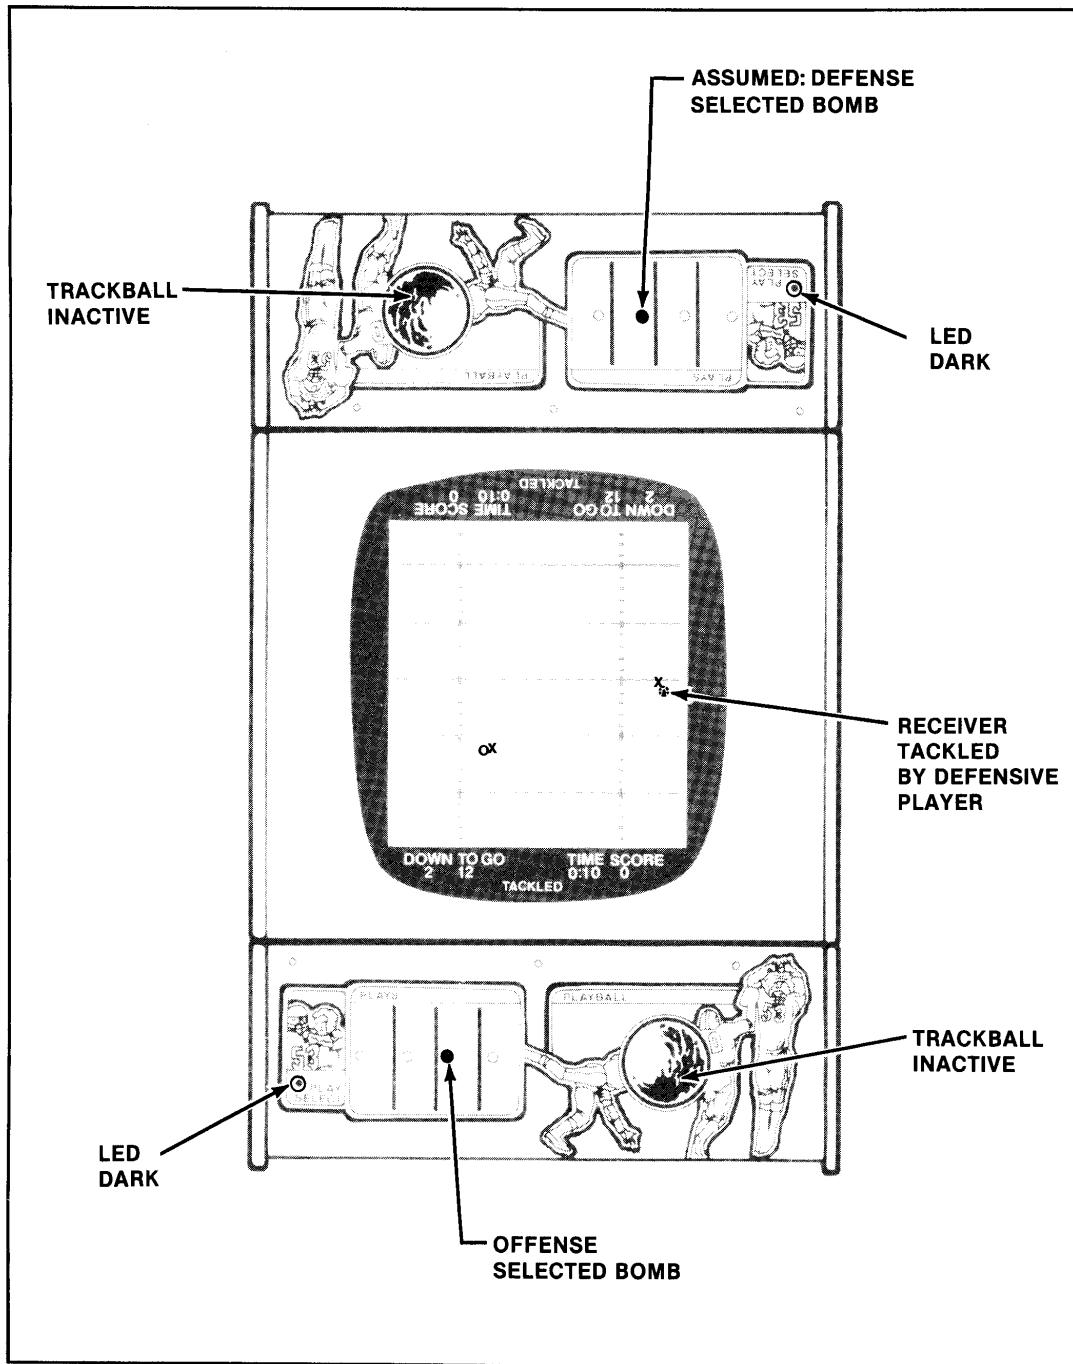

Figure 2-15 Tackled Offense
The tackle (see Figure 2-15) is the condition on the screen where the defensive player (X) physically touches the offensive player (O). Once again, at the point of being tackled, the player could gain or lose, depending on which side of the scrimmage line the player may have been tackled. Occasionally he may be tackled in his own end zone and the defense scores 2 points.